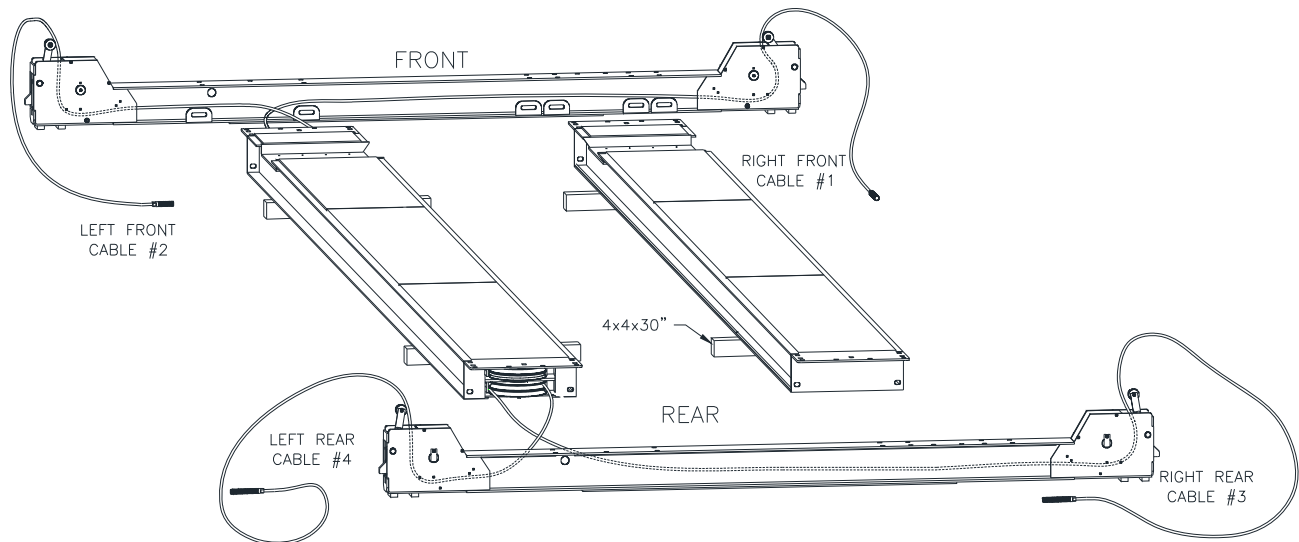
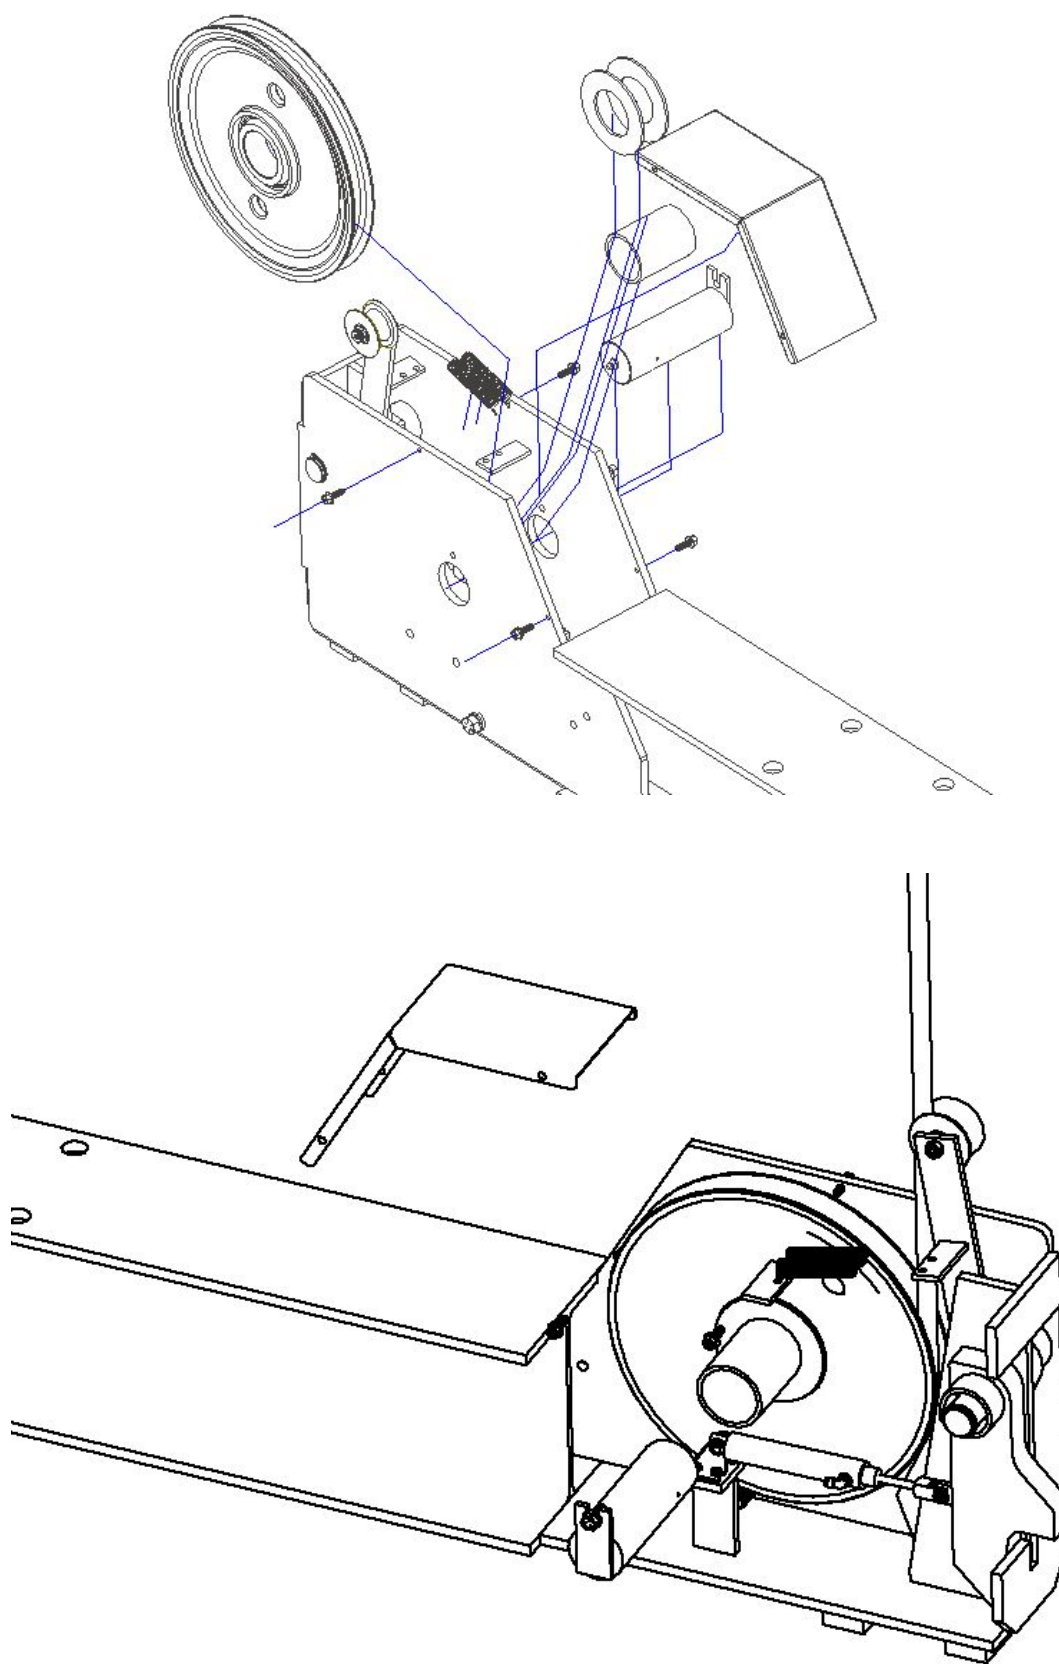

Fig 5 – Runway Layout
Fig 6 - Cross Rail Assembly
- 3) Position runways on blocking, see **Fig 5**, per layout lines established in step 1. Use four 30" long 4x4's spanning the width of the runway. Cables #3 and #4 should be extending out from the rear of the power runway and cables #1 and #2 from the front of the power runway, **Fig 5**.
- 4) Position the front and rear cross beams, **Fig 5**.
- 5) Feed Cable #3 through the cross beam, **Figs 5 & 6**. Note: The Slack Cable Latch springs must be removed, but the Cross Beam Sheaves do not. Feed cable thru above air cylinder and then on to the sheave, see **Fig 6**.
- 22) Install the four cable ends with one flat washer, one load nut, and one jam nut. See Item's 21, 22, & 23 on page 15. Pull the cables, on until the tension of the cables overpowers the springs on the cross beam (disengages the locks). The Slack device pulley mechanism should be vertical, as shown on figure 5. The cables need to be inserted on the top hole of the column. Ensure the cable is aligned with the cross-beam sheaves. (Do not put tension on the slack device if it is setting on the locks to avoid damage).